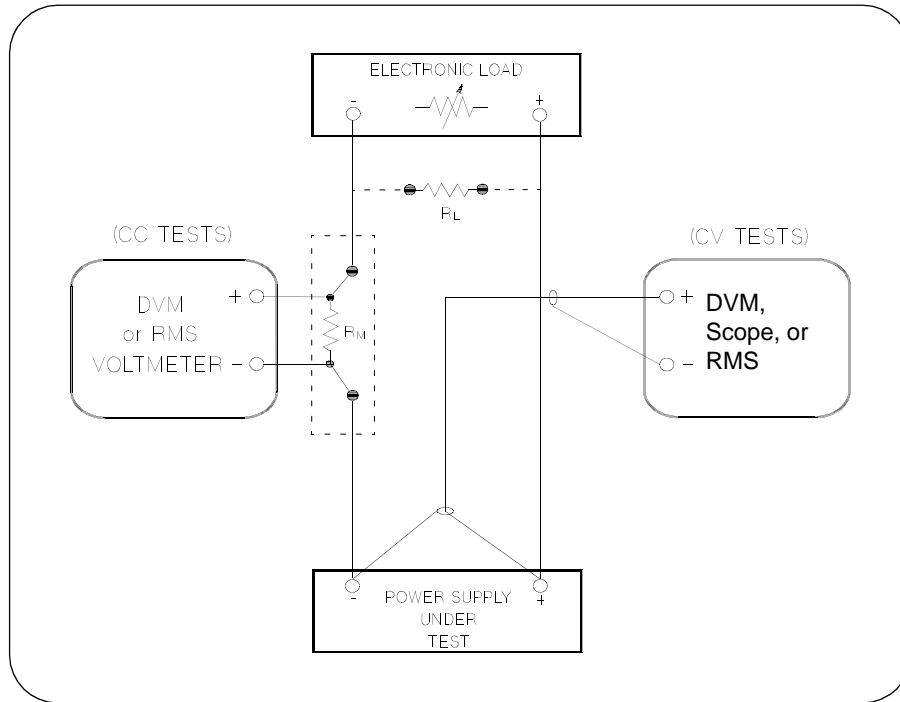

Figure A-1 Performance Verification Test Setup
Most tests are performed at the front terminals as shown in Figure A-1. Measure the dc voltage directly at the (+) and (-) terminals on the front panel.
To eliminate output current measurement error caused by the voltage drops in the leads and connections, connect the current monitoring resistor between the (-) output terminal and the load as a four-terminal device. Connect the current-monitoring leads inside the load-lead connections directly at the monitoring points on the resistor element (see R_M in Figure A-1).
- 1 Turn off the power supply and connect a digital voltmeter between the (+) and (-) terminals of the output to be tested as shown in Figure A-1.
- 1 Turn off the power supply and connect a digital voltmeter between the (+) and (-) terminals of the output as shown in Figure A-1.
- 6 Adjust the transformer to high line voltage (127 Vac for nominal 115 Vac, 110 Vac for nominal 100 Vac, or 253 Vac for nominal 230 Vac). Record the voltage reading on the digital voltmeter. The difference between the digital voltmeter readings in steps (5) and (6) is the CV line regulation. The difference of the readings should be within the limit of (5 mV)* or (9 mV)**.
- 7 Repeat steps (1) through (6) for the other output.
- 1 Turn off the power supply and connect the output to be tested as shown in Figure A-1 to an oscilloscope (ac coupled) between (+) and (-) terminals. Set the oscilloscope to AC mode and bandwidth limit to 20 MHz. Connect a resistive load (13.5Ω)[‡] to the terminal at (B) as shown above.
- 6 Repeat steps (1) through (5) for the other output.
- 1 Turn off the power supply and connect the output to be tested as shown in Figure A-1 with an oscilloscope. Operate the electronic load in constant current mode.